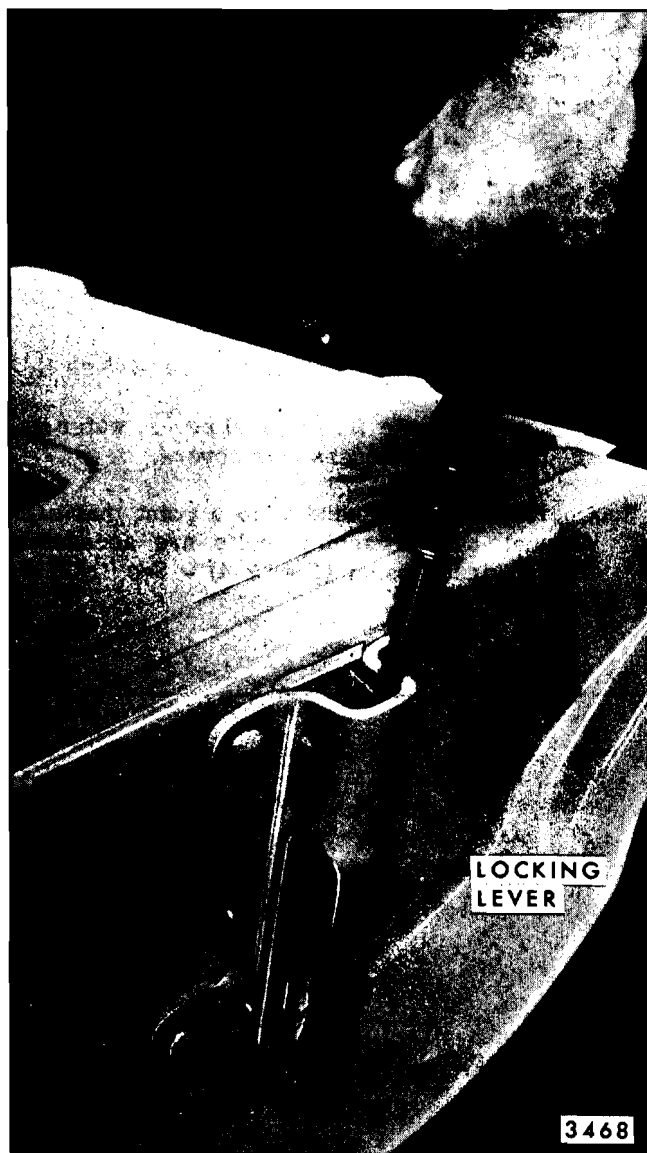

Fig. 9-6—Dual Tail Gate Left Lock Engagement
- B. The left upper lock is engaged by depressing (with a screwdriver, or other suitable tool) the locking lever to full engagement (Fig. 9-6).